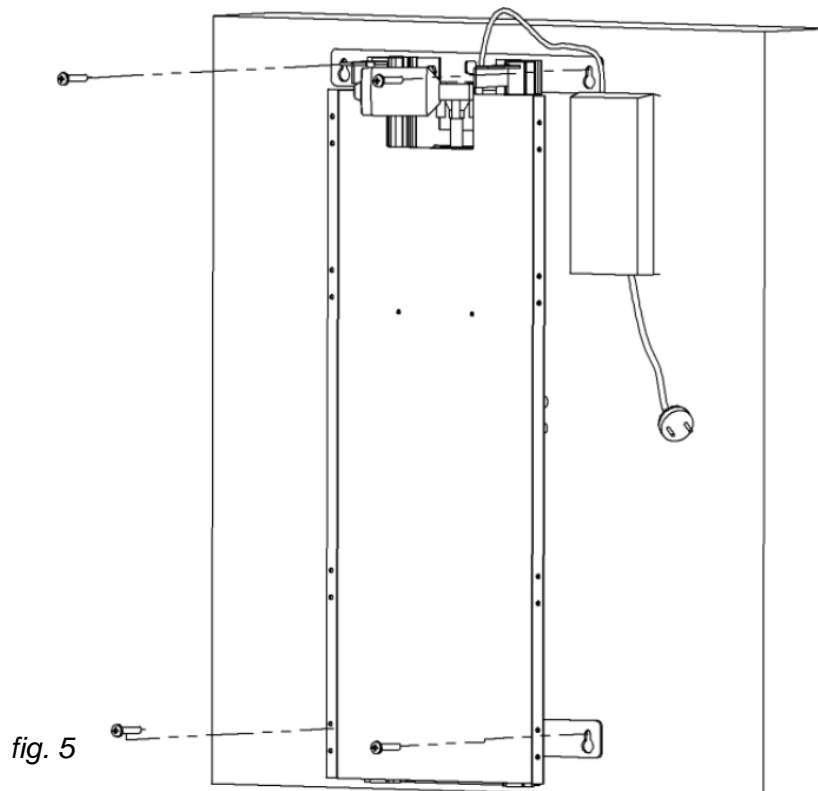

fig. 5
- Attach the lift to the wall (fig. 5).